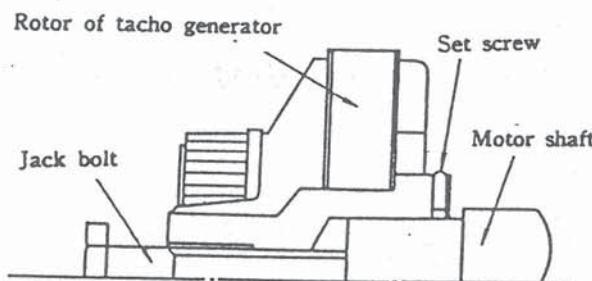

Fig. 8-7
- o Loosen the setscrew and withdraw the rotor while tightening the jack bolt (M12 x 100) by using the tapped hold on the inner surface of the rotor boss (Fig. 8-7).